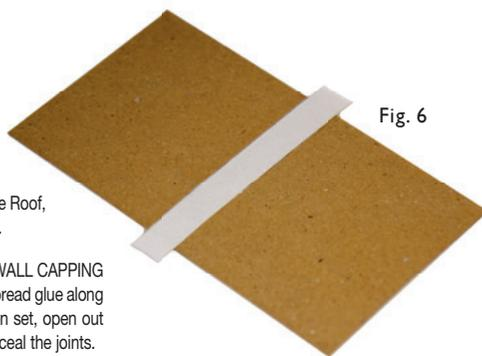

Fig. 6
- 5 Join together along the Ridge Tiles the two halves of the CHANCEL ROOF by gluing a strip of paper along the joint on the underside (Fig. 6).